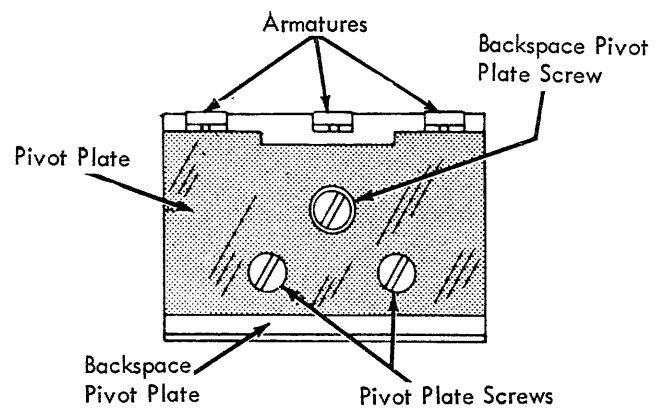

FIGURE 121. B/S Pivot Plate Location
1. Tab, Backspace, and Index Magnets (Fig. 121 & 122) -